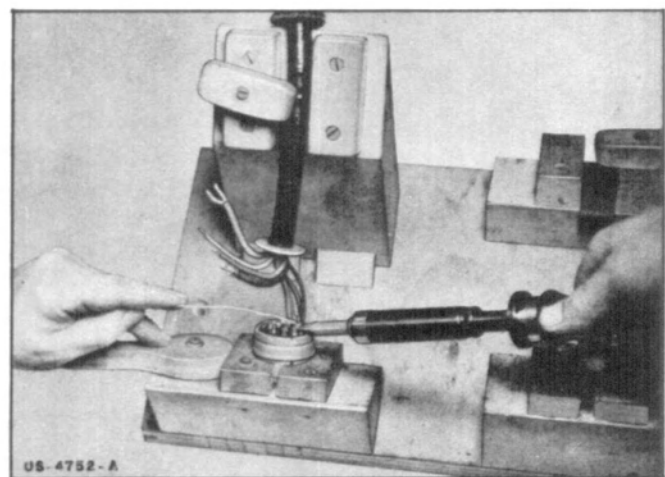

Figure 2-7—Installing Plug Body.
**j. PREPARING CO-AXIAL CABLES.** — Figure 2-7 illustrates one method of preparing co-axial cables. The dielectric should not be overheated or pressed out-of-round. Tin-dipping the conductor end is preferable to the use of a soldering iron.